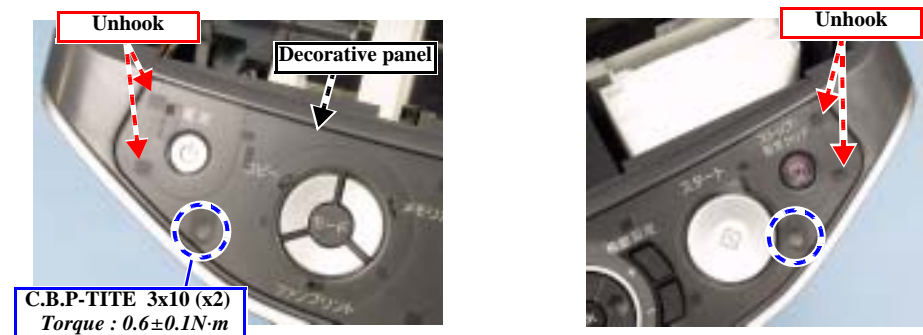

Figure 4-2. Removing the Decorative Panel and Panel Assy
4. Remove the screws (x2) securing the Panel Assy. (Fig. 4-2)